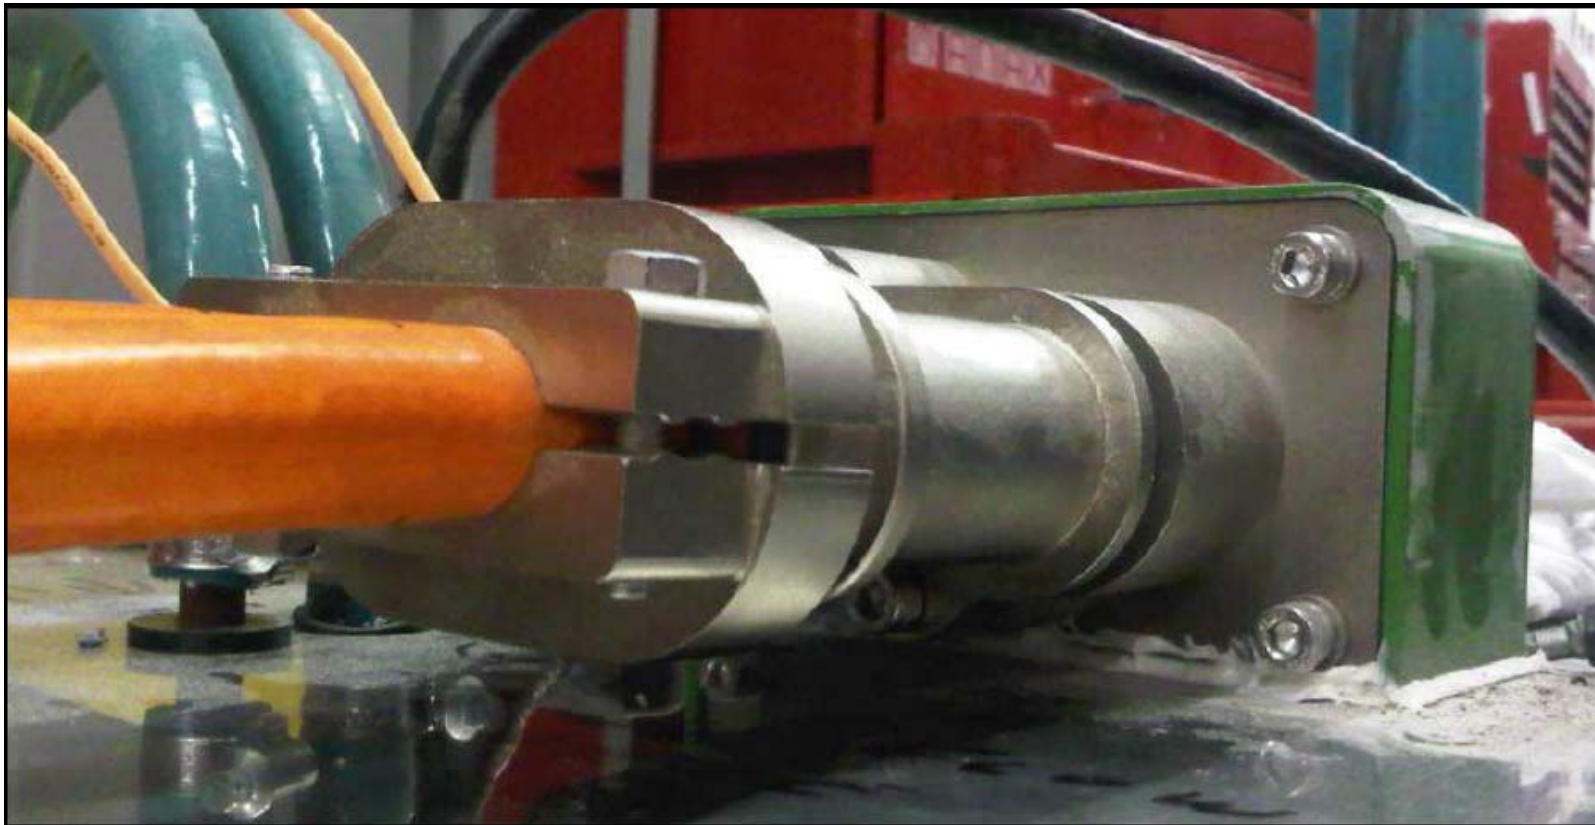

Fig. 4
3.5 Remove the exterior panel to expose the battery back. Disconnect the HV power connector by unscrewing the two fixing screws and pulling the connector out (Fig. 4).